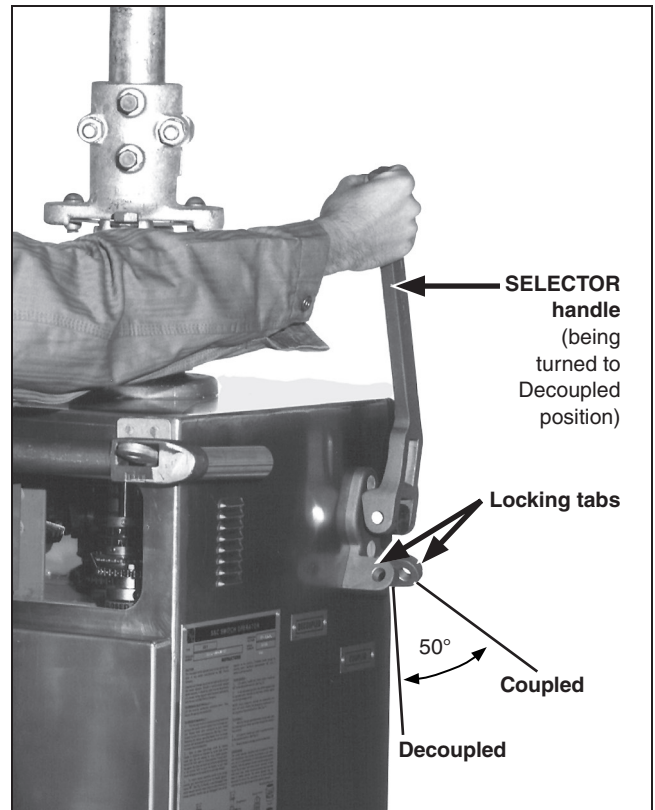

Figure 5. Selector handle operation.
- STEP 1.** Swing the SELECTOR handle upright and slowly rotate it clockwise 50 degrees to the **Decoupled** position. See Figure 5.